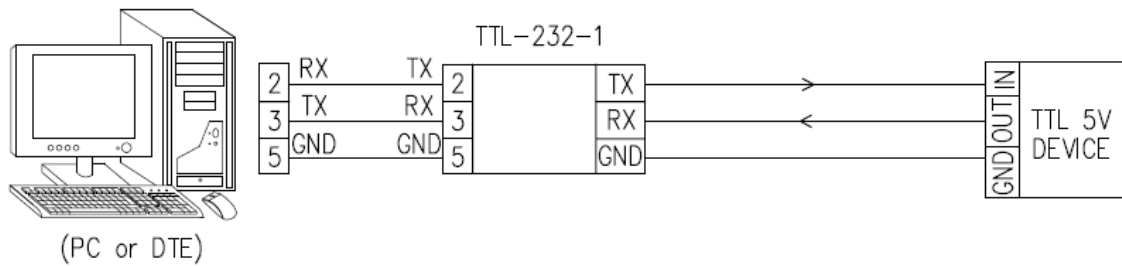

FIGURE 1: TTL-232-1 CONNECTION DIAGRAM
- DO NOT connect external power to +5V pin, it is for measurement only. The unit will function correctly only when the voltage on +5V pin is around +5V (when RS-232 port is connected). Otherwise, please check the connection (Figure 1).